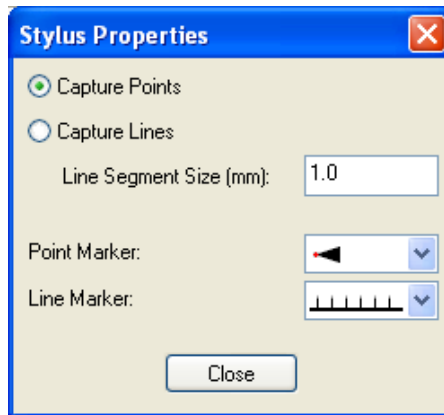
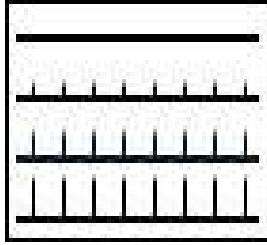

Figure 3: The Stylus Properties dialog box.
Figure 7: The Line Marker options drop-down menu.
Click on **Stylus/Properties** to bring up the **Stylus Properties** dialog box (Figure 3). Ensure that the **Capture Points** option is selected and the stylus is correctly setup (Section 1.1.1 (mechanical) or 1.2.1 (optical)).
Click on **Stylus/Properties** to bring up the **Stylus Properties** dialog box (Figure 3). Ensure that the **Capture Lines** option is selected and the stylus is correctly setup (Sections 1.1.1 or 1.2.1).
Click on **Stylus/Properties** to bring up the **Stylus Properties** dialog box (Figure 3). Then click on the drop-down menu to the right of **Line Marker:**. Select your preferred line style from the menu (Figures 7 & 8).
**Line segments** (vertical “hairs” coming off the line, see Figures 7 & 8) are the normals and represent the position and orientation of the stylus at that point of the line. The space between these can be user defined (according to the size required) in the **Line Segment Size (mm):** entry box in the **Stylus Properties** dialog box. More points per millimeter gives a smoother line, less points a coarser one.
- **Properties:** Launches the **Stylus Properties** dialog box (Figure 3).